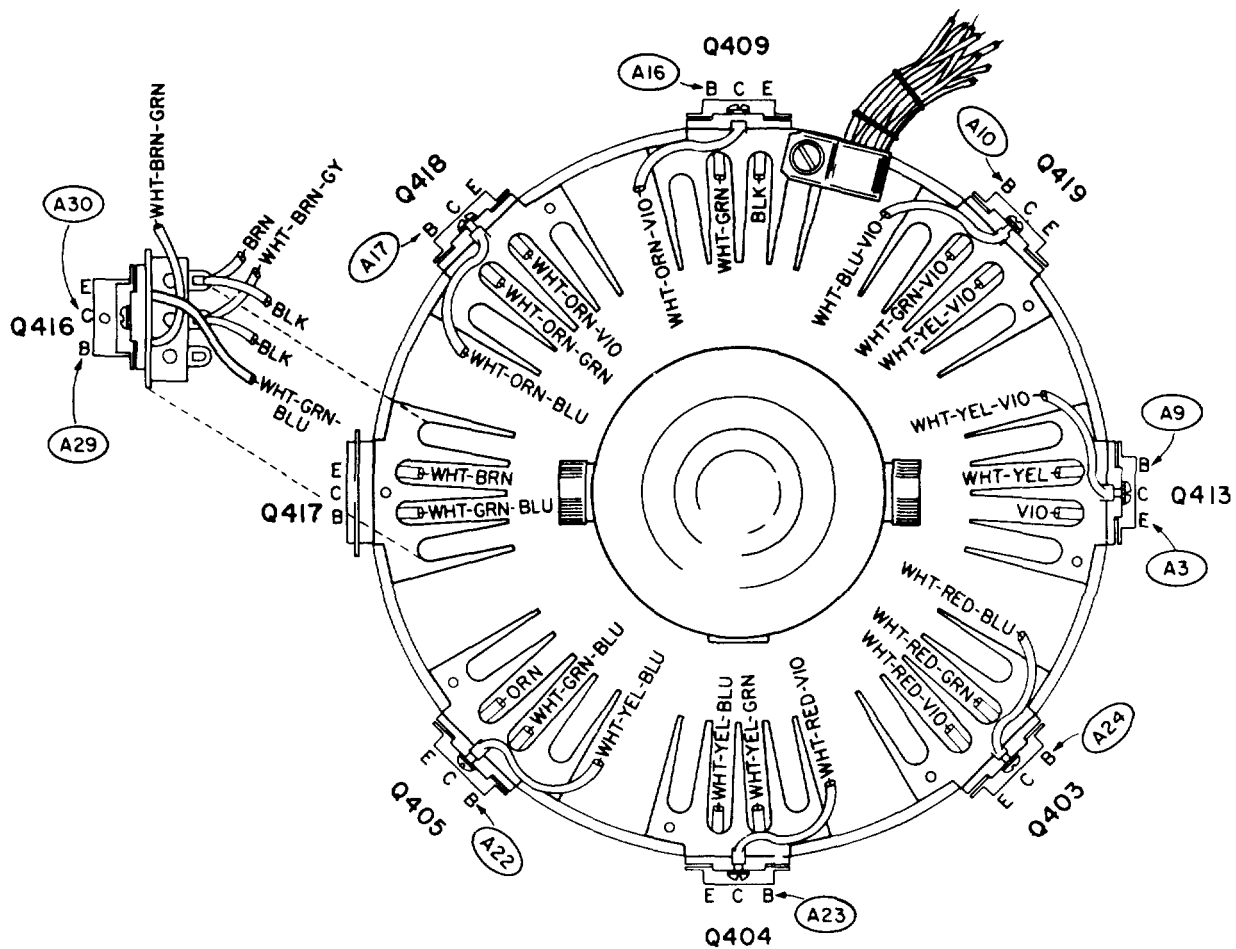

Figure 4-20. Fan Shroud and Power Transistor Assembly, Location of Test Points and Connections
(2) Remove the eight fan shroud screws and open the motor supporting strap.
(3) Slip the entire fan, shroud, and motor out the rear of the chassis, noting cable dress and shroud position. See figures 4-20 and 5-10. Twist slightly to give transistors clearance.
(4) Remove and inspect the brushes.